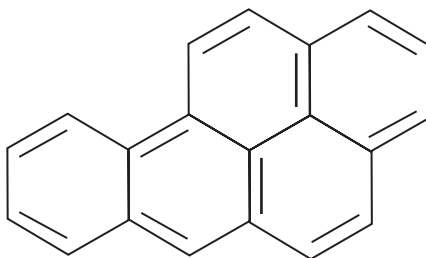

Figure 19.7
¹⁴ Benzene is different than the other chemicals in this list of compounds. It is a cyclic molecule with three *double* bonds. It is the simplest of the so-called aromatic compounds. A double bond means that the elements involved in the bond share *two* pairs of electrons. Quite often you see aromatic compounds represented with inner circles rather than the line representation for double bonds. Sharing the electrons in the way that benzene and other aromatic compounds do makes them stable. Conversely, non-cyclic molecules, which contain double (or triple) bonds are very reactive. An example of a simple linear molecule is *pentane* which will be seen when discussing gasoline combustion. The structure of an aromatic chemical more complex than benzene is seen in Figure 19.7.
- **PAHs** (polycyclic aromatic hydrocarbons) are formed in small amounts, but a number are very toxic. Observe in Figure 19.7 the structure of benzo[*a*]pyrene (BaP), a carcinogenic and mutagenic PAH.²⁸ Also see Box 19.3.
The double lines shown in the BaP structure (Figure 19.7) represent double bonds, i.e., the atoms involved share two pairs of electrons. However, saying that two carbon atoms share two pairs of electrons in such rings is a simplification; rather the electrons are “spread” among the carbons. The atoms that make up BaP are not shown because it is assumed that the carbons and the hydrogens are present; each apex represents a carbon atom. Benzene, the simplest aromatic ring compound has a formula of C_6H_6 . Examine the BaP molecule and determine why each ring is able to have less than six carbons.